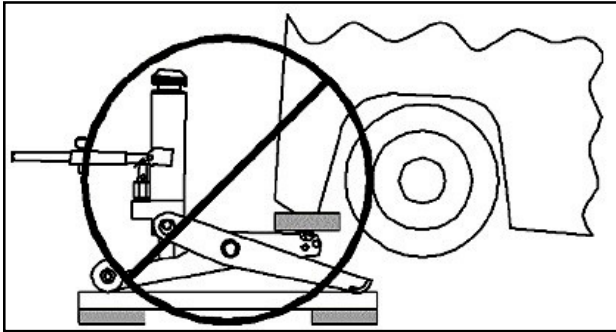

Fig. 8: Never increase lifting height
- The serrated lift pad or lift arm notch must be in direct contact with the forklift (see Fig. 8)
- ⚠ Never increase the lifting height of the jack by putting wood, pads, cinder blocks, or any other objects above the lift pad or underneath the front footpad and/or wheels (Fig. 8).